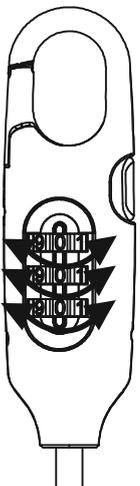

Fig. 11
c. Set your desired combination. (Fig. 11)